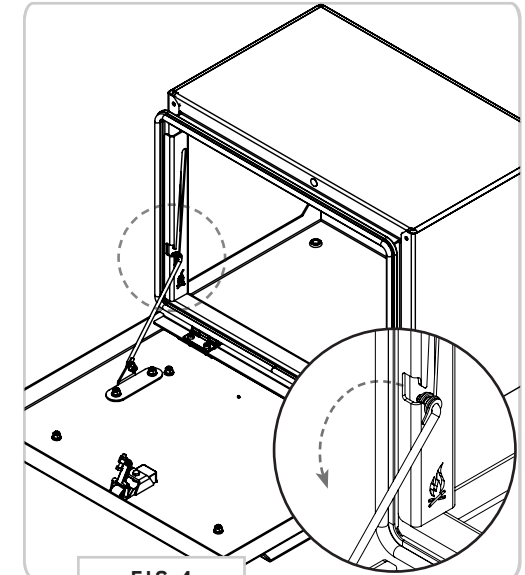

FIG 4
- 2.5 Release the door by pulling out the **Downstay Rod** from the rail as shown in FIG 4.